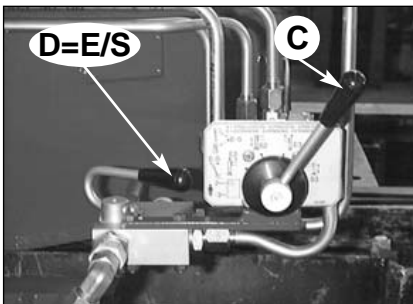

fig. 18
- Position lever **D** of oil diverter crane-outriggers (⌘ - E/S) on E/S. (fig. 18)
- Position lever **D** of oil diverter crane-outriggers (☞ - **E/S**) on **E/S**. (Fig. 18)